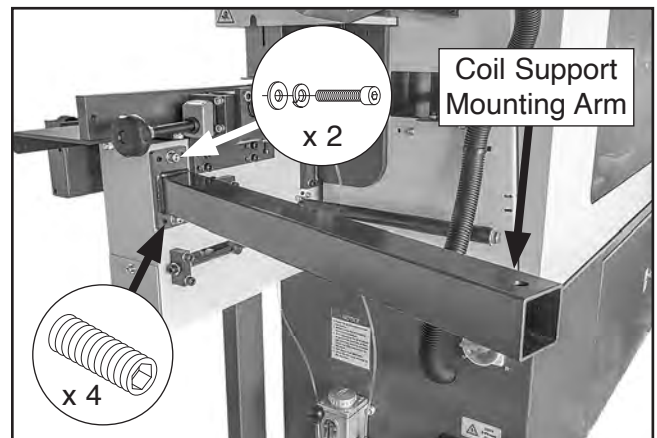

Figure 19. Coil support mounting arm installed.
3. Install coil support mounting arm with (2) M8-1.25 x 20 cap screws, (2) 8mm lock washers, and (2) 8mm flat washers, (see **Figure 19**). Use pre-installed set screws to level support arm, then tight cap screws.